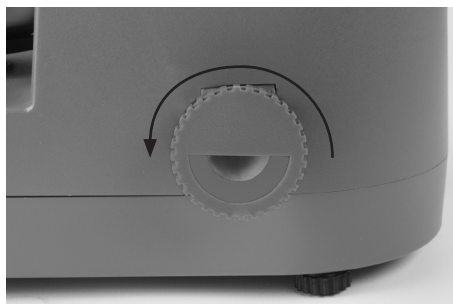

Fig. 8 - Turn drain spout 1/2 turn to open spout
Step 2. Turn the drain spout $\frac{1}{2}$ turn to open the spout (*Fig. 8*). You may need to tap on the top of the dispenser to start the powder to drain.